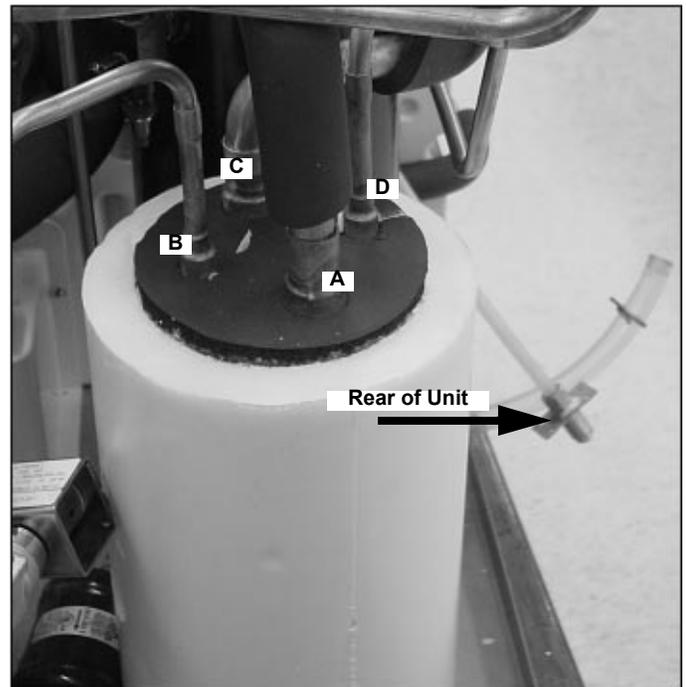

FIGURE 30. Right Side
31. Place the foamed accumulator assembly orienting the suction line outlet, (A) to the right end of the unit (FIGURE 30).